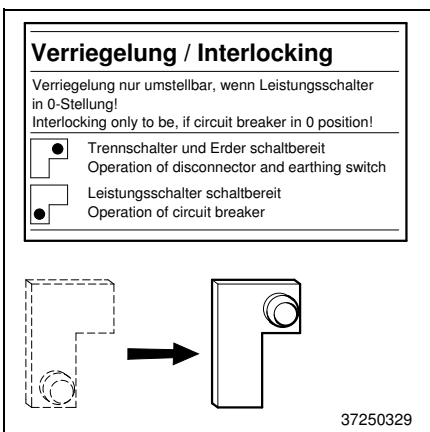

Fig. 57
**3** Deactivate the interlock between the circuit-breaker and the disconnecter or earthing switch respectively. Do this by moving the operating lever from the bottom left to the top right position (Fig. 57) (see also Chapter 4.9, "Panel Interlocks").